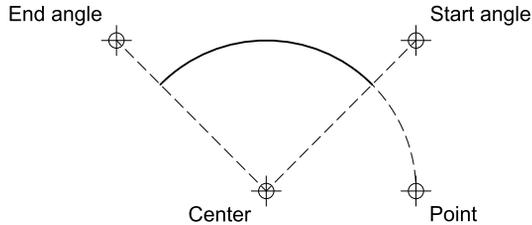

Figure 9-14: An arc from a given center, point and angles.
Use this arc tool if you know the center of the arc. Figure 9-14 shows the geometry of an arc with the parameters that need to be defined with this arc tool.
2. Define the arc radius by clicking a point on the circle line of the arc. This point does not necessarily need to be on the arc itself but can also be on the extended circle line of the arc as shown in Figure 9-14. Alternatively, you can also enter the radius in the command line.